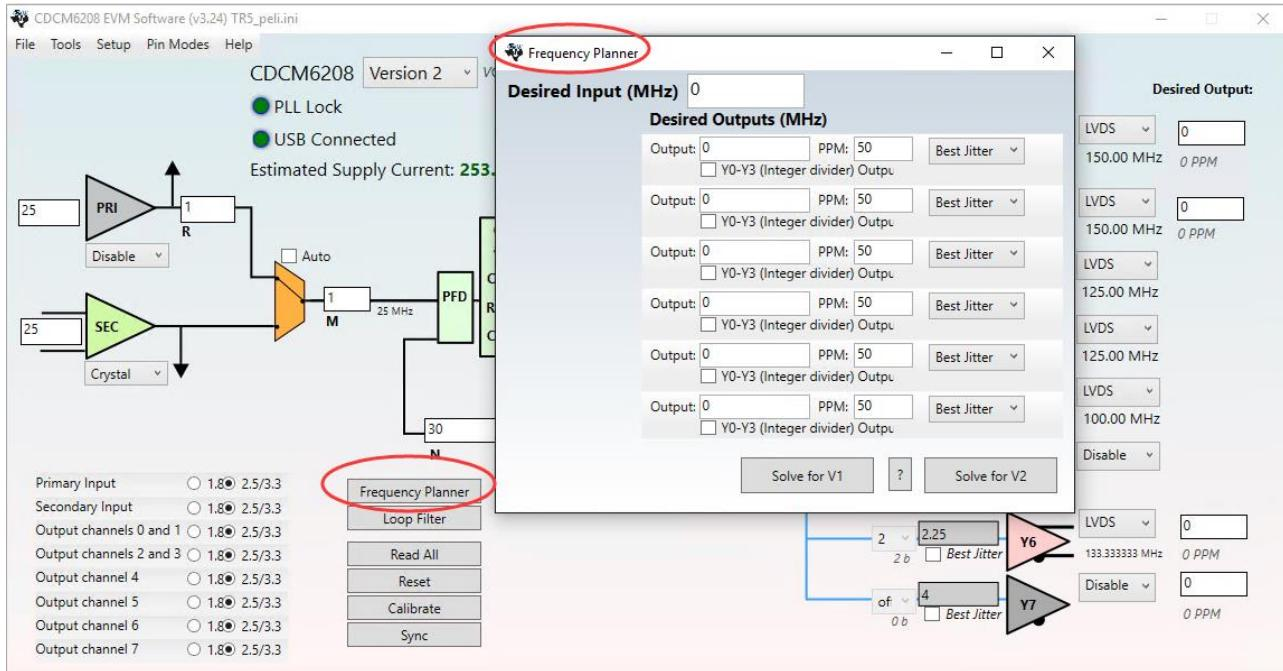

Figure 5-5 Define Output Clock Frequencies on CDCM6208 EVM Software
- After the installation, select CDCM6208, and configure the input frequency and output frequency as shown in **Figure 5-5**.